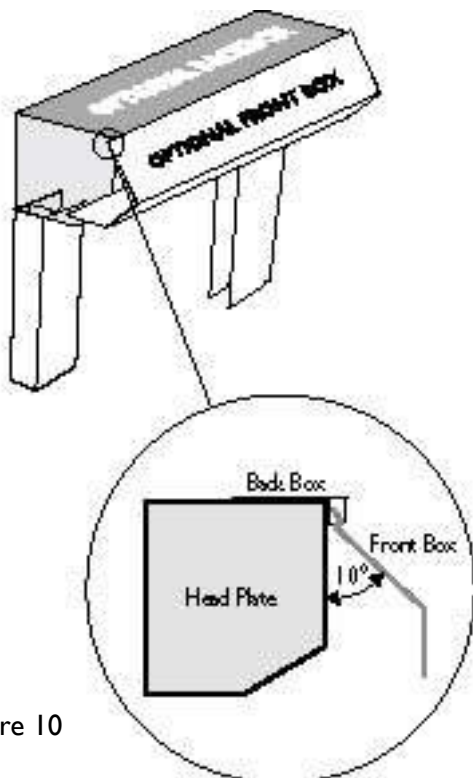

Figure 10
- (1) Clip the internal cover into the back box top retaining lip at approximately 10 degrees (See Fig 10).
- (2) Once clipped along the entire length of the back box top lip place the internal cover tight to the head plates.
- (3) Drill and fix in place with self tapping screws or pop rivets.
- (4) Drill a hole in the front box to allow the manual over-ride adaptor to pass through and locate into the over-ride eye on the motor unit. Please note that over-ride adaptor should now be stored securely with the crank handle, and not permanently fixed.